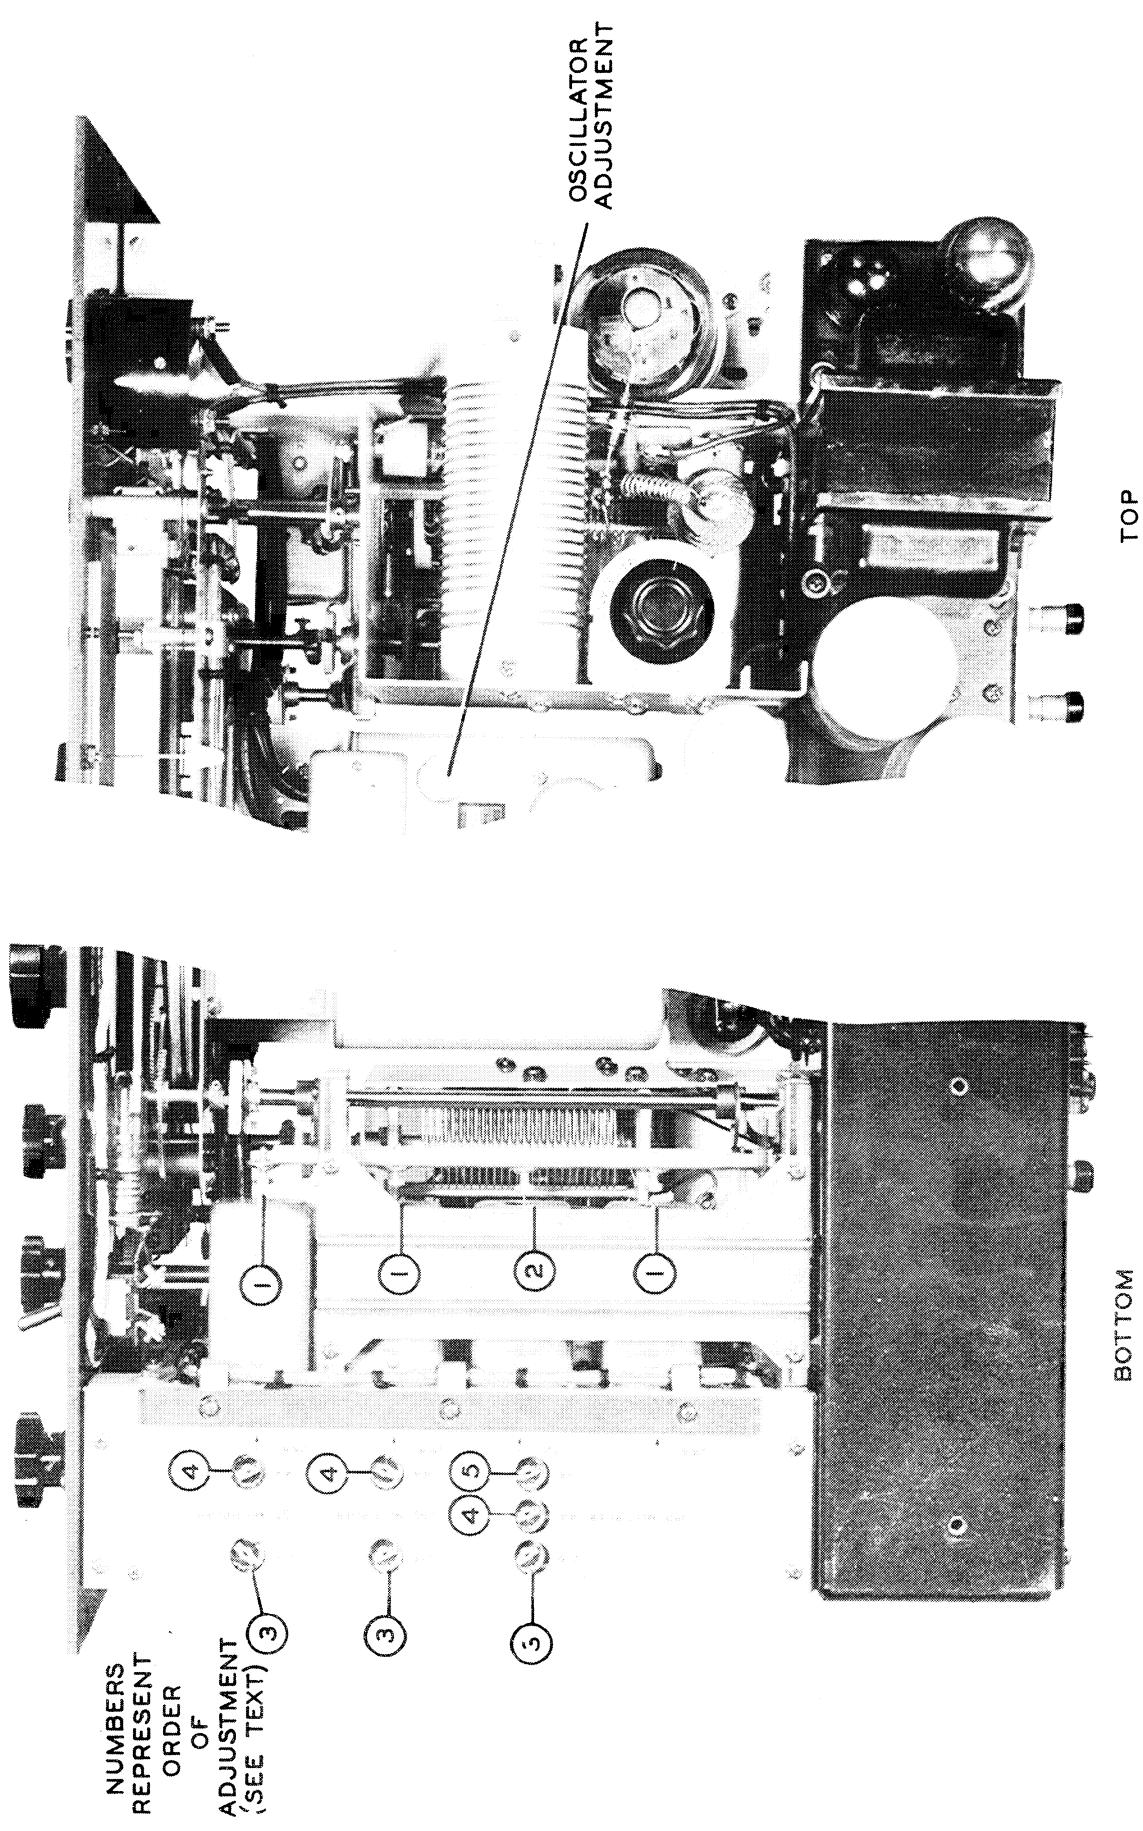

FIGURE 5-1 ALIGNMENT ADJUSTMENTS
- (1) Remove the transmitter from the cabinet and tip it up on end. (RF section up).
- (2) Remove the fuse from the HV primary. (This allows the low voltage supply to be turned on while the HV supply remains turned off.)
- (3) Turn the LV and HV power switches ON.
- (4) Place the CW-CAL-PH switch in the PH position.
- (5) Place the METER selector switch in the GRID position.
- (6) Adjust for maximum grid current using the adjustments and conditions listed below in order from top to bottom of the list. (Refer to figure 5-1 for adjustment identification.)